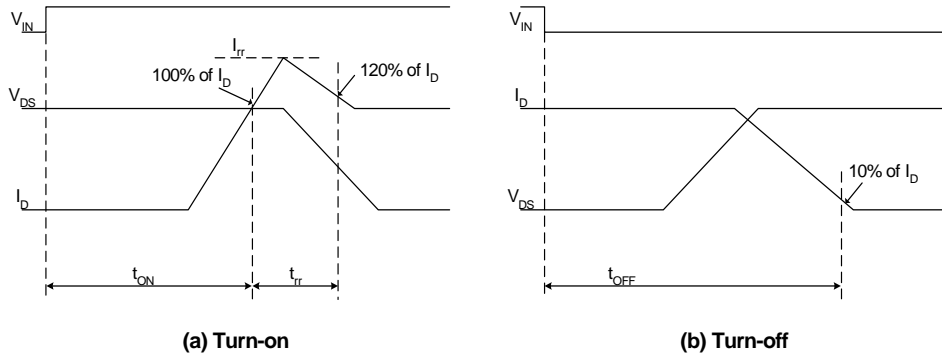
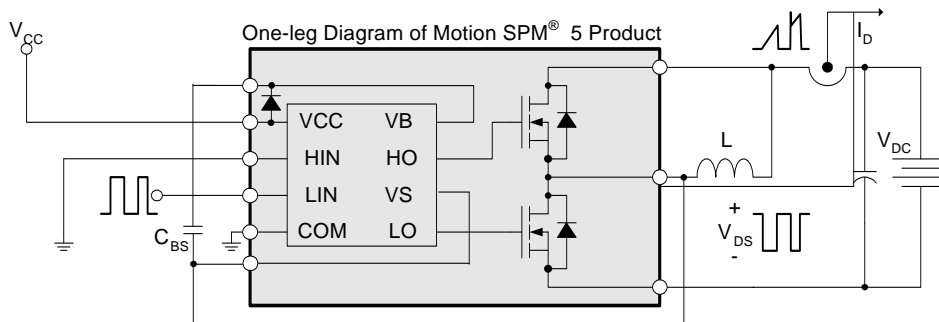

Figure 5. Switching Time Definitions
Figure 6. Switching and RBSOA (Single-pulse) Test Circuit (Low-side)
- tON and tOFF include the propagation delay of the internal drive IC. Listed values are measured at the laboratory test condition, and they can be different according to the field applications due to the effect of different printed circuit boards and wirings. Please see Figure 5 for the switching time definition with the switching test circuit of Figure 6.
- The peak current and voltage of each MOSFET during the switching operation should be included in the Safe Operating Area (SOA). Please see Figure 6 for the RBSOA test circuit that is same as the switching test circuit.